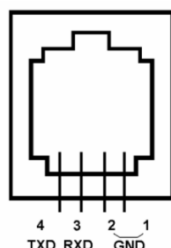

Figure 9. Serial port pin-out on an 8407+ hand controller
- Serial port: connect the HC to a computer via a RS232 to 4P4C RJ9 cable. The pin-out of the serial port is shown in Figure 9.